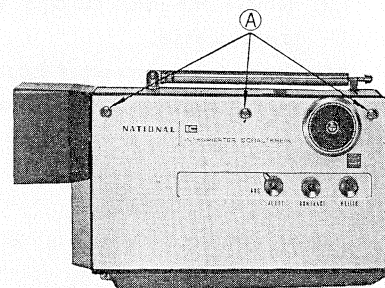

Fig. 3-1
- 2) Remove three screws **A**, four screws **B** and three screws **C** shown in the photo. (Figs. 3-1, 3-2, 3-3)